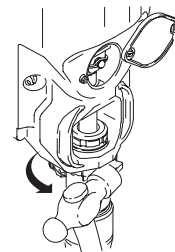

Fig. 13 9576A
6. Fig. 13. Screw jam nut (12) up onto pump until nut stops. Tighten jam nut by hand, then tap 1/8 to 1/4 turn with a 20 oz (maximum) hammer to approximately 75 ± 5 ft-lb (102 N·m).